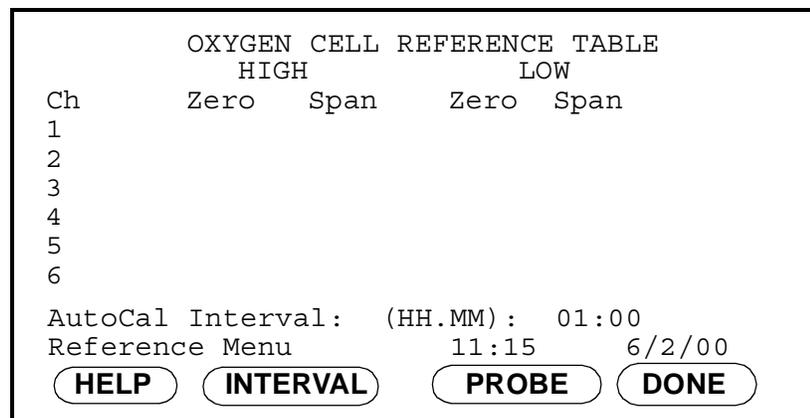

Figure 2-12: Reference Menu for the Delta F Cell
1. At the Reference Menu (see Table 2-4 on page 2-21), press the PROBE menu key until the Oxygen Cell Reference Table appears (see Figure 2-12 below).